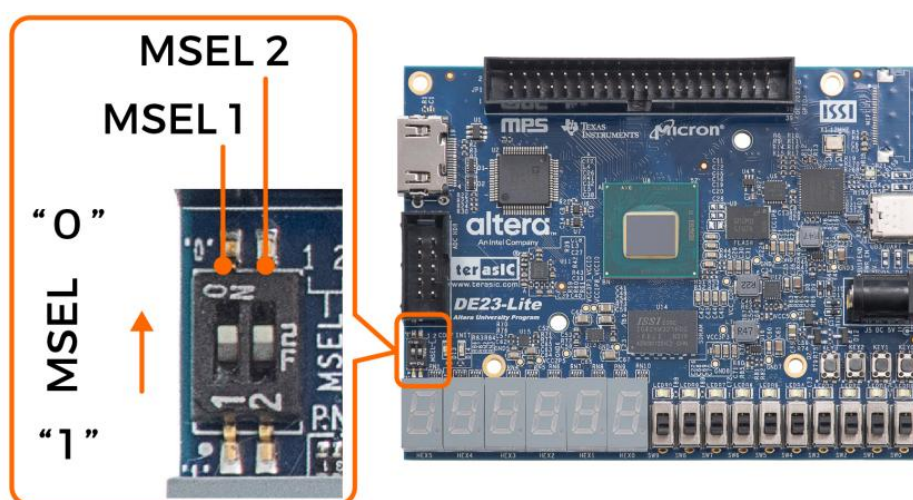

Figure 3-1 DIP switch (SW10) setting of Active Serial (AS) mode on DE23-Lite board
When the DE23-Lite board is powered on, the FPGA is configured from QSPI Flash. The MSEL[2:1] switches are used to select the configuration scheme, implemented as a 2-pin DIP switch **SW10** on the DE23-Lite board, as shown in **Figure 3-1**.
Figure 3-1 shows MSEL[2:1] setting of Active Serial (AS) Fast mode, which is the default setting on the DE23-Lite. When the board is powered on, the FPGA is configured from QSPI Flash, which is pre-programmed with a default configuration.